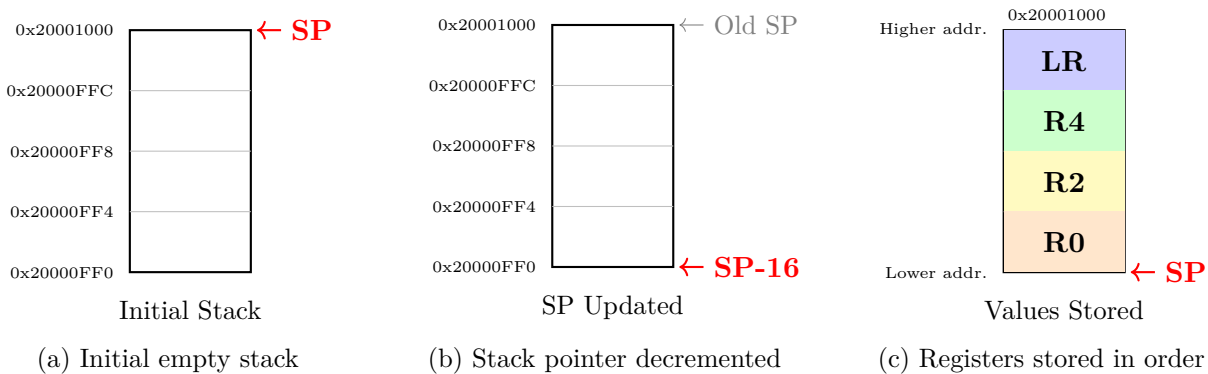

Figure 3.1: Stack operation sequence for PUSH {R4, R0, R2, LR}
**Explanation:** Figure 3.1(a) shows the empty stack with SP at the top (highest address). When PUSH executes, the processor **decrements SP by 16 bytes** to reserve space for four registers (Figure 3.1(b)). Finally, in Figure 3.1(c), values are stored according to the rule: the lowest-numbered register (R0) at the lowest address, then R2 and R4, and the highest-numbered (LR) at the highest address. Because the stack grows downward, SP points to the last written word after the operation.